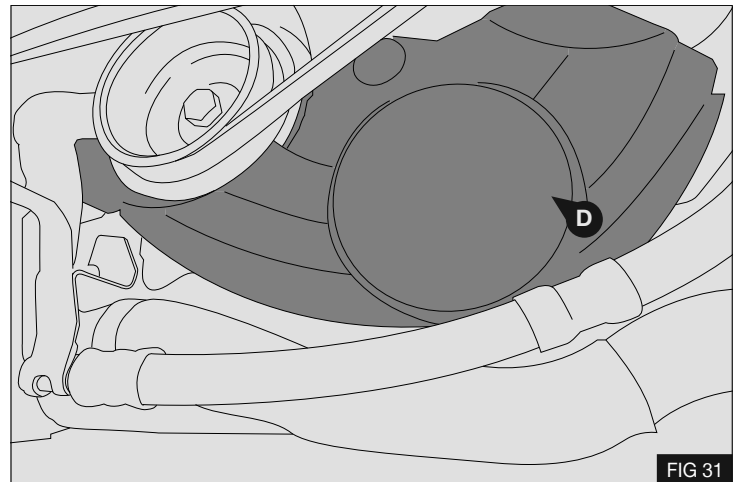

FIG 31
2. Fit the modified pulley guard **D** using the original fasteners where appropriate. - Fig 31